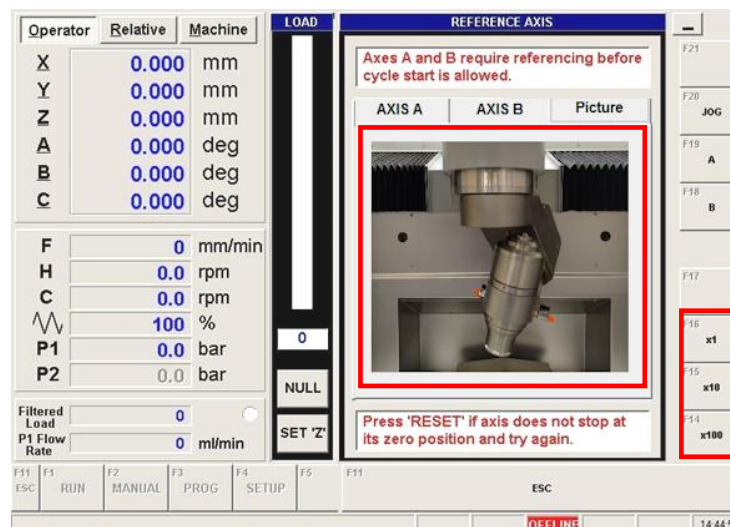

Figure 20 - Reference axes
The “REFERENCE AXIS” screen displays. See (*Figure 20 - Reference axes*).
3. Move both “AXIS A” and “AXIS B” to the position shown in the picture, by selecting the “MPG” button followed by either the “A” or “B” axis buttons and using the x1, x10 or x100 micron buttons and turning the “MPG” hand wheel accordingly. See (*Figure 20 - Reference axes*).